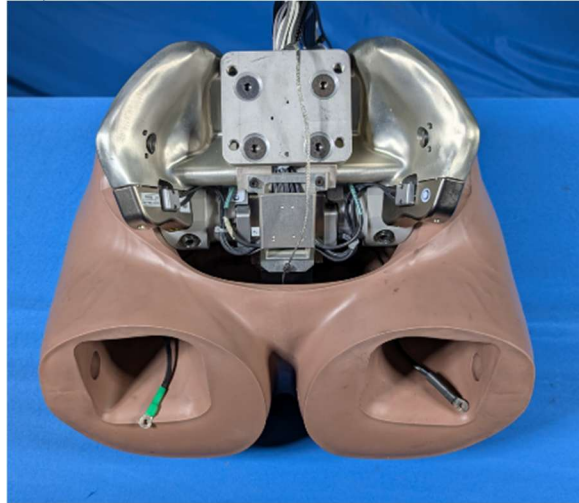
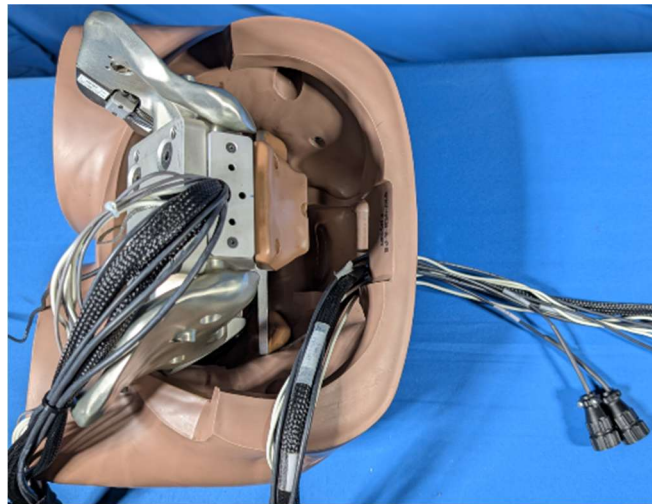
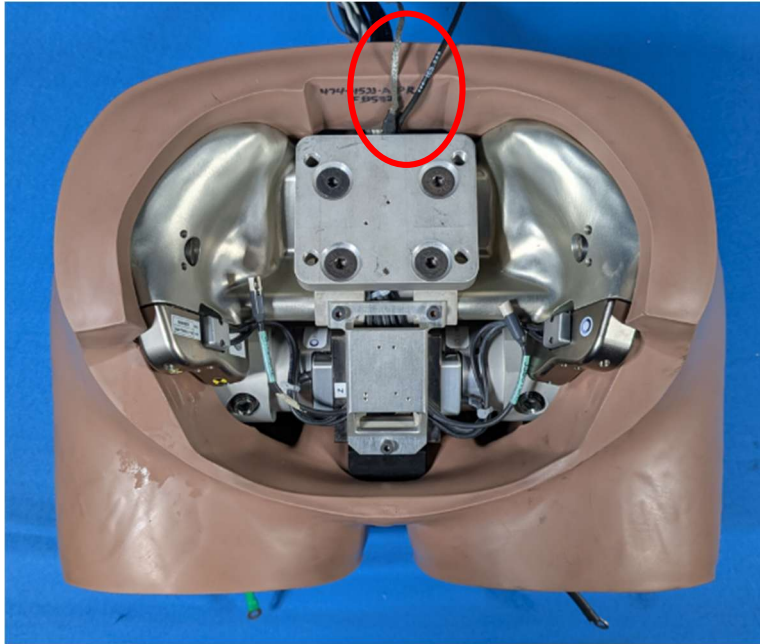

Figure 13-29. Grounding cables routed through femur holes during pelvic bone installation into pelvis flesh
Figure 13-30. Instrumentation bundle threaded through rear pelvis-flesh hole before final seating of pelvis assembly
Figure 13-31. Tilt-sensor wire and grounding strap cable r
13.4.3.7 When installing the pelvis bone into the pelvis flesh, route the grounding cables through the femur holes (Figure 13-29) and thread the instrumentation bundle through the hole in the rear of the pelvis flesh (Figure 13-30). Route the tilt-sensor wire and grounding-strap cable along the inside of the pelvis flesh as illustrated (Figure 13-31).